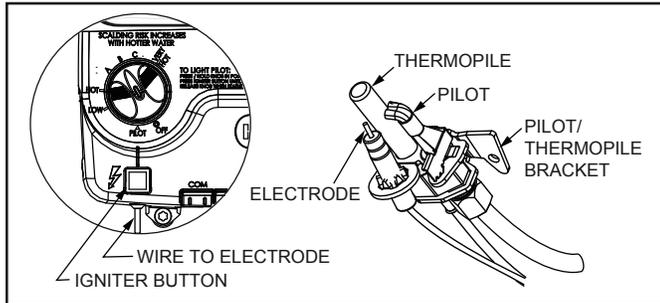

Figure 38
- Reinstall the manifold component block in the manifold door. Ensure that the pilot tube and wires are positioned as shown in Figure 38.